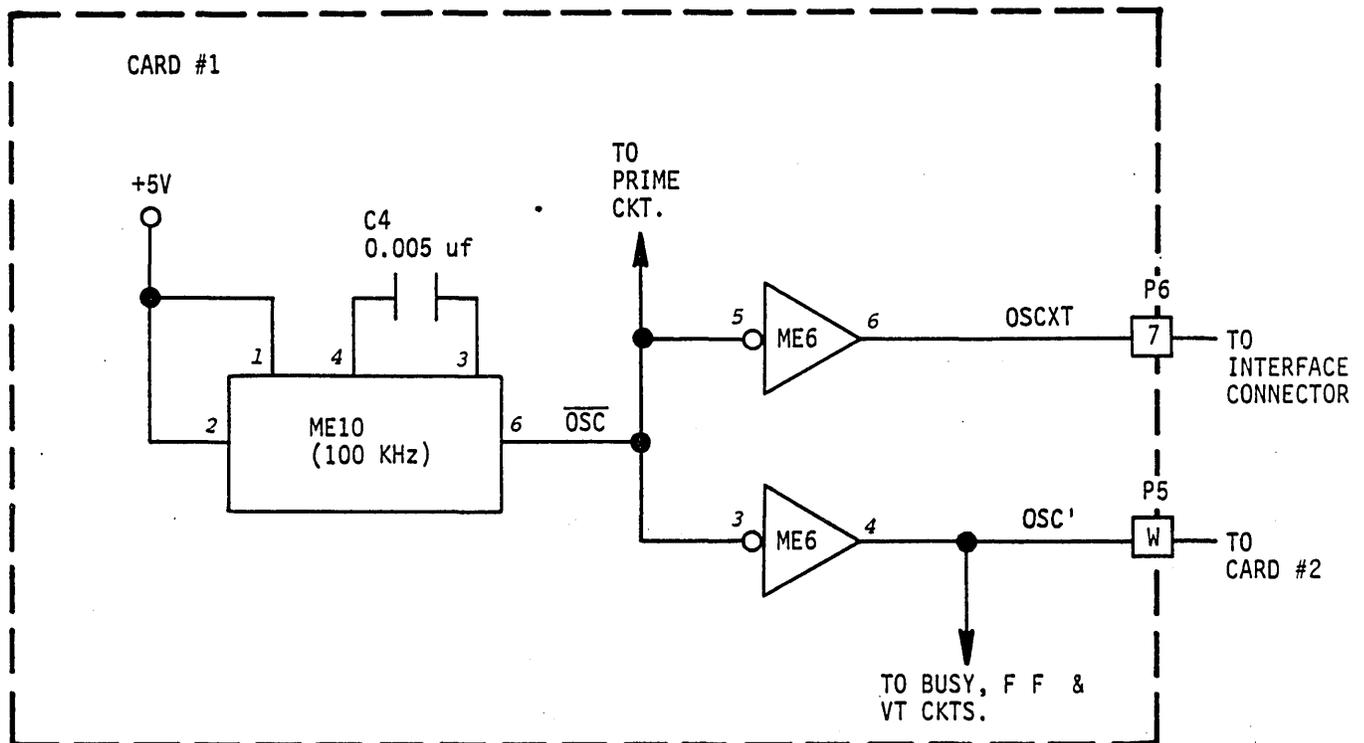

Figure 4-3. BASIC TIMING CIRCUIT
4.2 BASIC TIMING (See Figure 4-3)